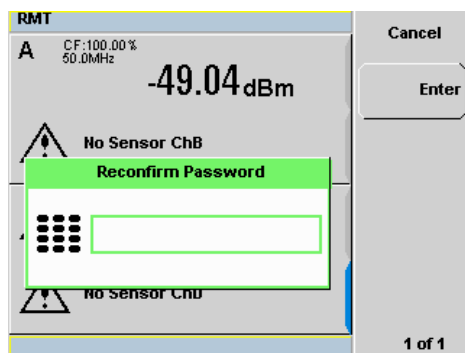

Figure 3-50 Reconfirm password
- 6 The reconfirm password pop-up will be displayed (see Figure 3-50). You will be prompted to enter the password again for confirmation.